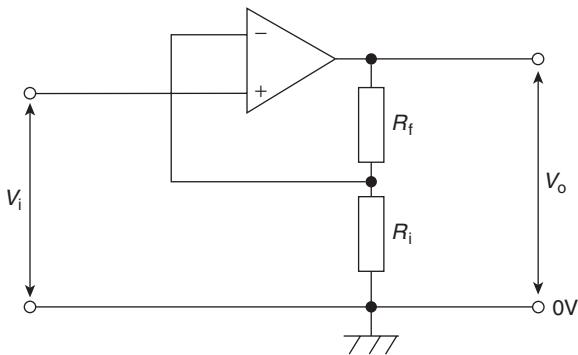
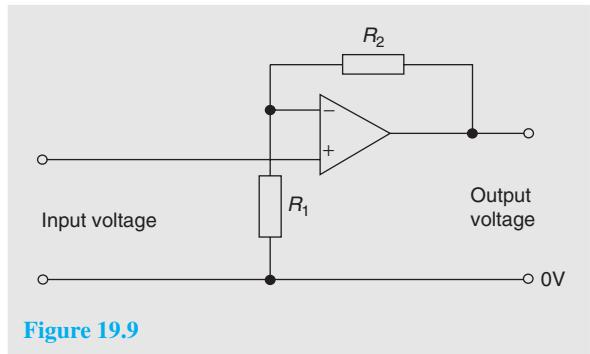
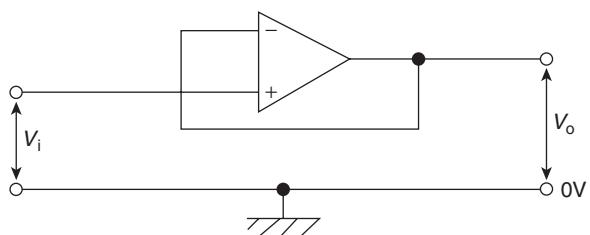

Figure 19.8
Figure 19.9
Figure 19.10
The basic circuit for a non-inverting amplifier is shown in Fig. 19.8 where the input voltage  $V_i$  (a.c. or d.c.) is applied to the non-inverting (+) terminal of the op amp. This produces an output  $V_o$  that is in phase with the input. Negative feedback is obtained by feeding back to the inverting (-) terminal, the fraction of  $V_o$  developed across  $R_i$  in the voltage divider formed by  $R_f$  and  $R_i$  across  $V_o$ .
In Fig. 19.8, let the feedback factor,
**Problem 7.** For the op amp shown in Fig. 19.9,  $R_1 = 4.7 \text{ k}\Omega$  and  $R_2 = 10 \text{ k}\Omega$ . If the input voltage is  $-0.4 \text{ V}$ , determine (a) the voltage gain (b) the output voltage.
The op amp shown in Fig. 19.9 is a non-inverting amplifier, similar to Fig. 19.8
The **voltage-follower** is a special case of the non-inverting amplifier in which 100% negative feedback is obtained by connecting the output directly to the inverting (–) terminal, as shown in Fig. 19.10. Thus  $R_f$  in Fig. 19.8 is zero and  $R_i$  is infinite.
The circuit of Fig. 19.10 is called a voltage-follower since, as with its transistor emitter-follower equivalent,  $V_o$  follows  $V_i$ . It has an extremely high input impedance